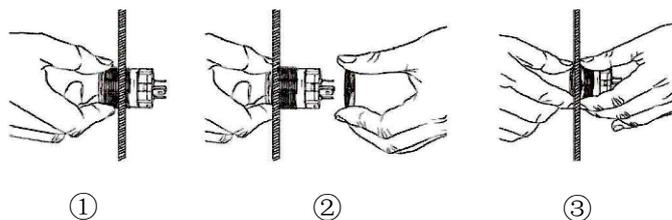

Figure 3: Product installation steps
### 4.1 Installation method(figure 3)
4.5 Product installation steps are shown in Figure 3